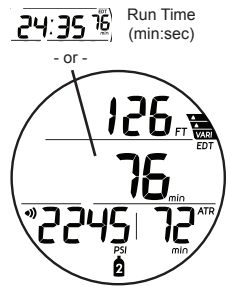

Fig. 129 - GAUG DIVE MAIN
**GAUG DIVE MAIN**, information includes (Fig. 129) -